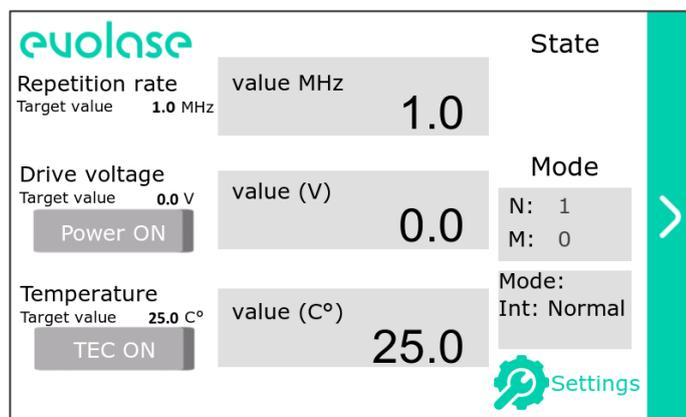

Figure 14 – PS driver menu
1. In PS driver menu (fig. 14) press  to go to the settings menu.